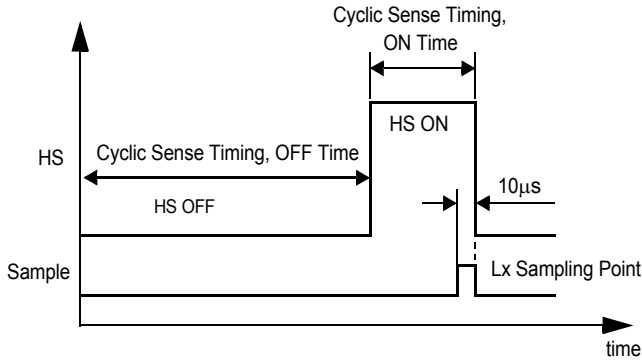

Figure 30. HS Operation When Cyclic Sense Is Selected
- TIM2—Selects an appropriate timing for sensing the wake-up circuitry or cyclically supplying devices by switching the HS on or off. TIM2 is selected when bit D3 is 1 (Table 32). Figure 30, page 54, describes HS operation when cyclic sense is selected. Cyclic sense timing characteristics are described in Table 34, page 54.